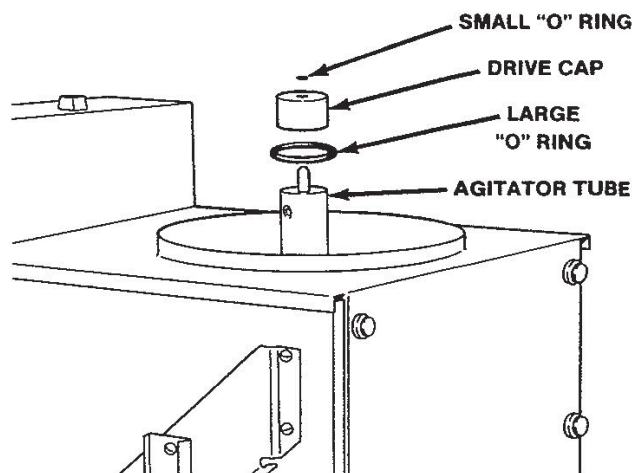

Figure 19. Removing Drive Cap and "O" Ring
1. First remove the small "O" Ring from the drive-shaft, then remove the drive cap and large "O" Ring from the agitator tube (Fig. 19).